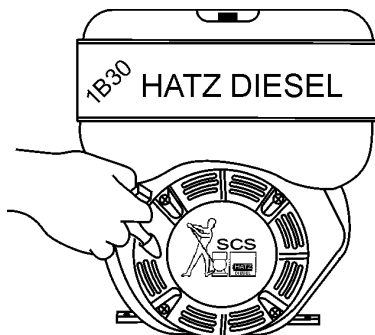

Figure 10. Starter Grip
6. **Pull** the **starter grip** (Figure 10) lightly until you feel resistance, then pull briskly. Return the starter grip gently.